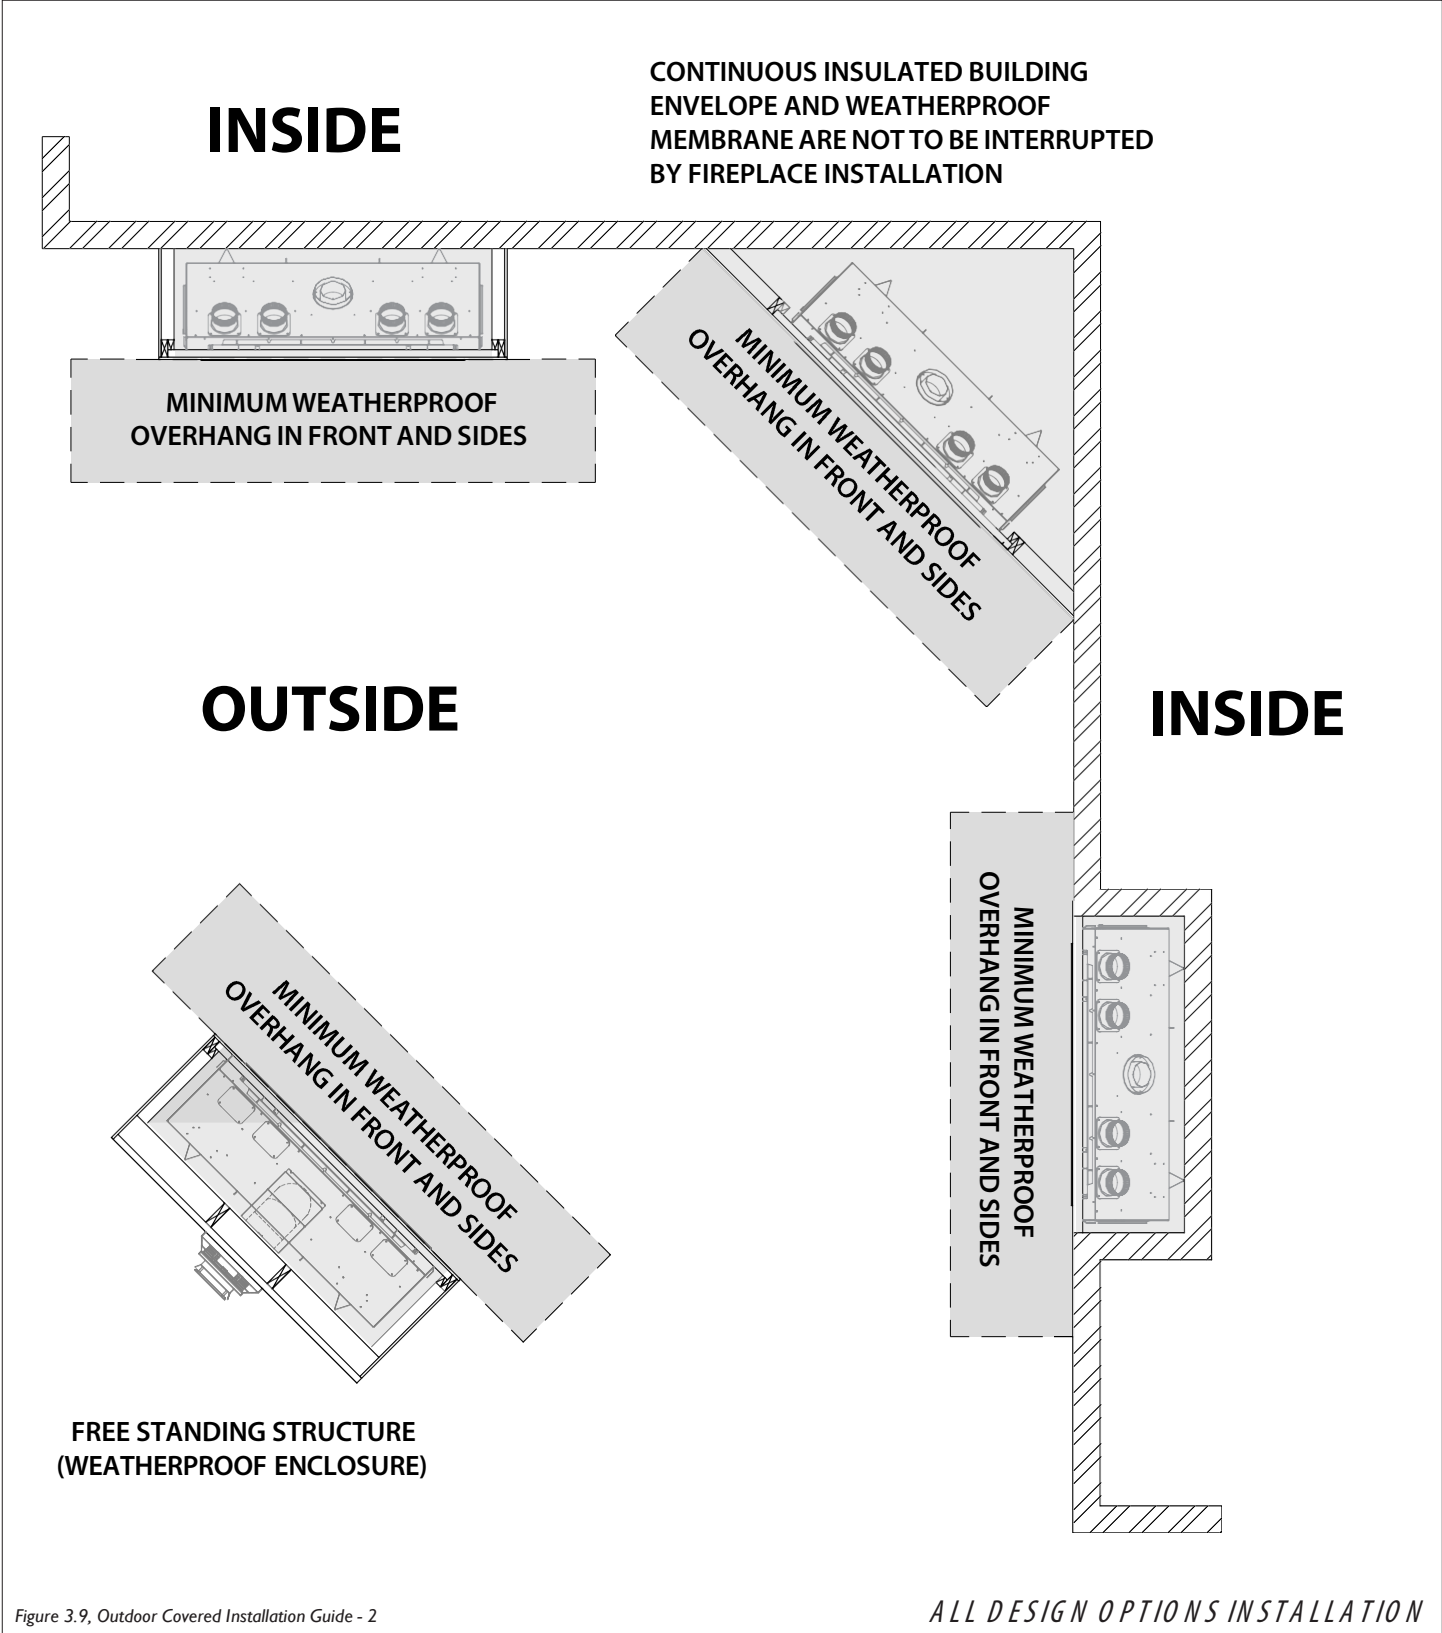

Figure 3.9, Outdoor Covered Installation Guide - 2
- The continuous insulated building envelope and weatherproof membrane are not to be interrupted by fireplace installation. See Figure 3.9 on the following page.